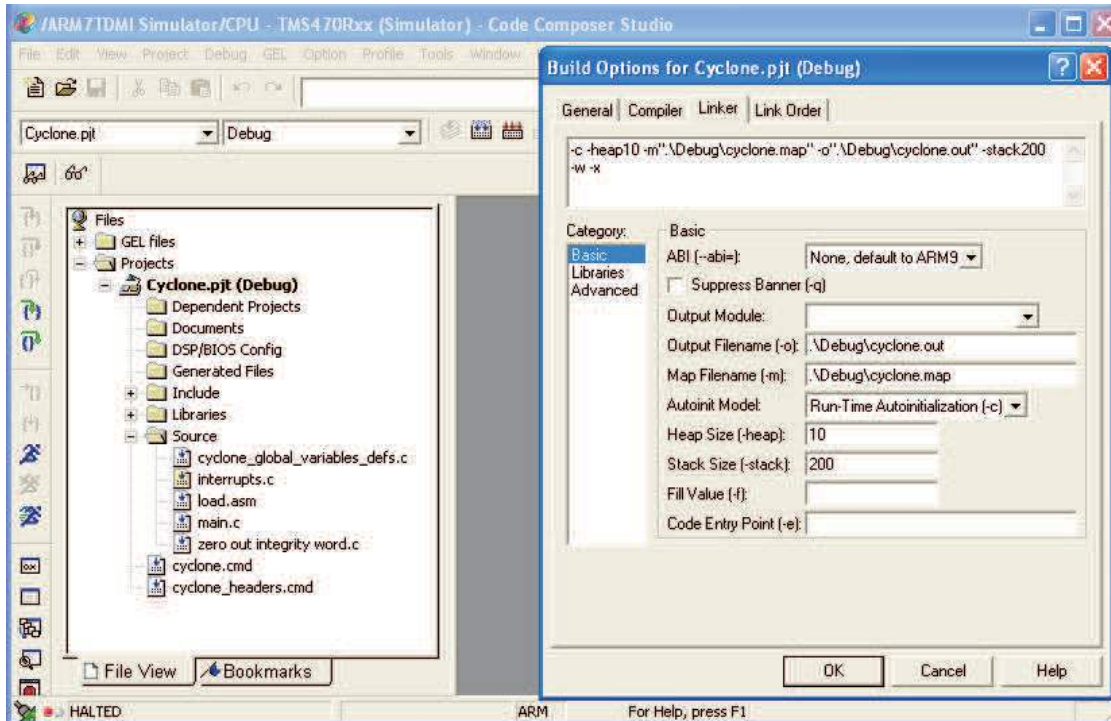

Figure 26. Open a Project File “Cyclone.pjt” – Build Options and Linker Tab
4. From CCS project window, Right click on “Cyclone.pjt (Debug)” and then select “Build Options...” the window as shown in Figure 26 appears when the “Linker” tab is selected.
5. Figure 26 shows the project “Build Options” have been selected to create the file “Cyclone.out” from CCS.